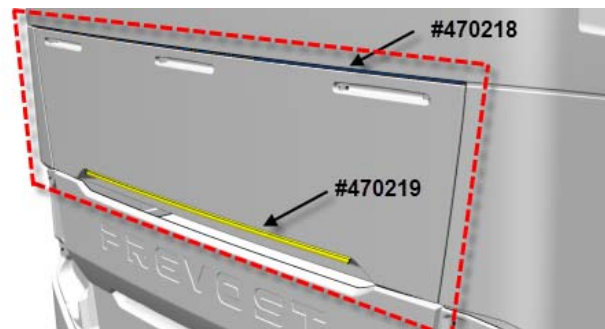

FIGURE 20
2. Clean dirt on the lower part of the **exhaust aftertreatment system ATS** access hatch as well as the area located right above the ATS access hatch (FIGURE 20). It is very important to install the drip edge on a clean surface to assure water tightness.
NOTE: FIGURE 20 shows where the drip edges will be installed.